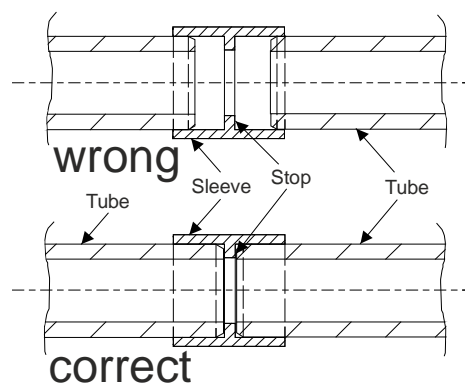

Fig. 7 Assembling the tubes
- The individual tube sections are connected using fittings. Depending on the tube material used, use either the adhesive process described in Sec. 2.5.2 and 2.5.3 or the pressing process described in Sec. 2.5.4. The tubes are pushed into the fittings as far as the stop, **Fig. 7**.